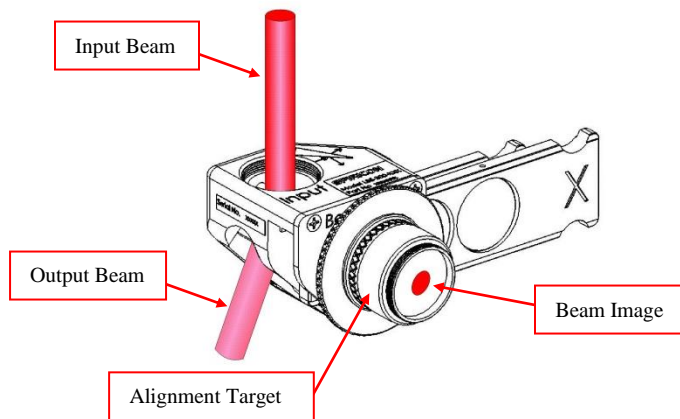

Figure 3
2. Adjust the position of the LBP2-SAM so that the beam will exit the center of the camera port. An alignment fixture consisting of a ground glass plate is provided to assist in aligning visible beams to the camera imager. This plate allows you to directly view a visible or UV beam (UV by secondary emissions). In the NIR, you would need to use an NIR viewer or a visible alignment beam. To use the alignment fixture, screw the fixture onto the camera port and center the image of the beam in the plate. See Figure 3. When the LBP2-SAM is aligned, remove the alignment fixture and attach the camera.